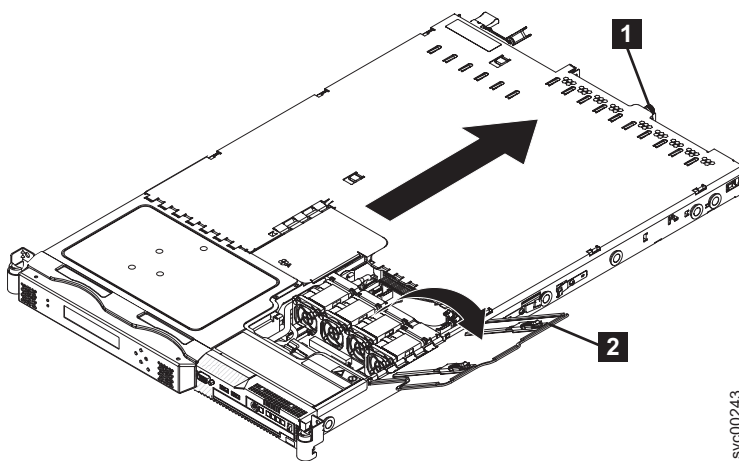

Figure 67. The SAN Volume Controller 2145-8G4 with fan door open
3. Loosen the thumbscrew ( **1** in Figure 67) that secures the cover at the rear of the SAN Volume Controller 2145-8G4.